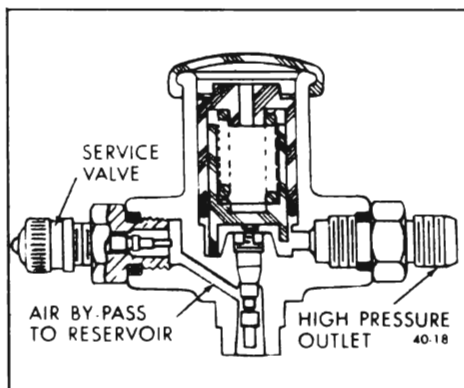

Figure 40-25 - Pressure Regulator Valve
c. The pressure regulator valve is preset and limits the reservoir outlet pressure to approximately 125 psi to avoid damage to the height control valve and Superlift shocks. See Figure 40-25.